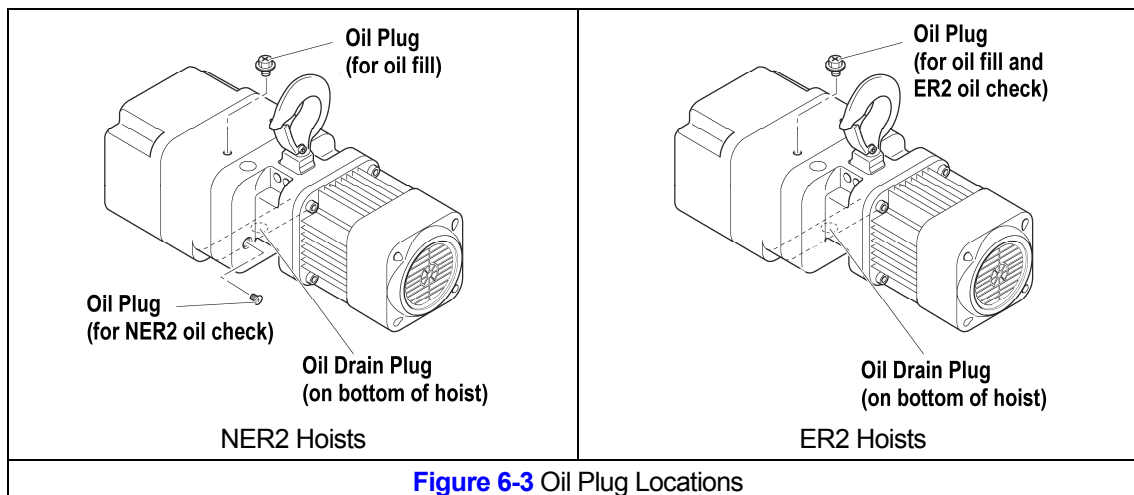

Figure 6-3 Oil Plug Locations
6.3.3 **NER2 OIL LEVEL** – For hoists equipped with a Friction Clutch, the oil level is checked by removing the oil plug on the side of the hoist as shown in Figure 6-3 for NER2 hoists. The oil level should be just below the hole when the hoist is level.
6.3.4 **ER2 OIL LEVEL** – For hoists equipped with a Mechanical Load Brake/Friction Clutch, the oil level is checked through the oil check hole at the top of the hoist. **DO NOT** remove the oil plug exposing the oil level check hole on the side of the hoist. The oil level will be above the hole and will leak out. A dip stick should be used to check the oil level through the top hole as shown in the in Figure 6-3 for ER2 hoists. Reference Table 6-5 for check distances from the top of the hoist body.